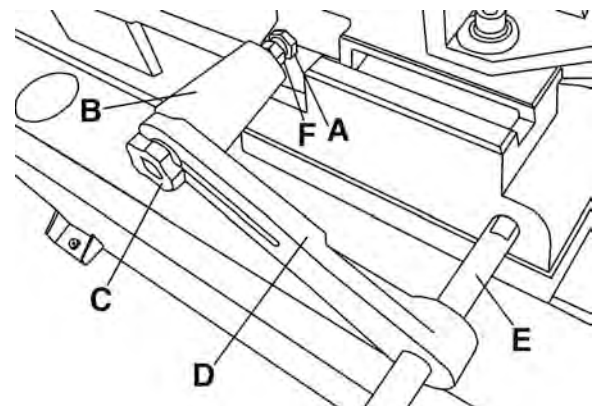

FIGURE 14
The stock advance stop Fig.14 is used mainly when more than one piece of work is to be cut to the same length. Simply position the stop bolt (A) to the desired distance away from the blade.